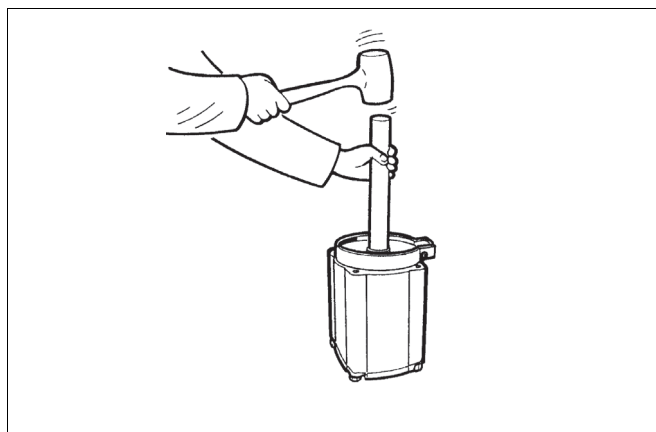

Fig. 9 Placing the piston in the cylinder
- Knock or press the piston through the tie ring with a press, Fig. 9.